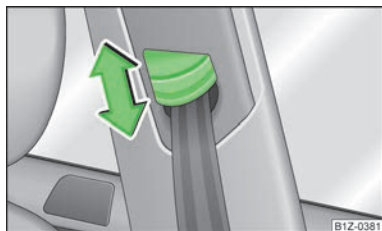

Fig. 115
- Press the height adjuster and move up or down in the desired direction » Fig. 115.